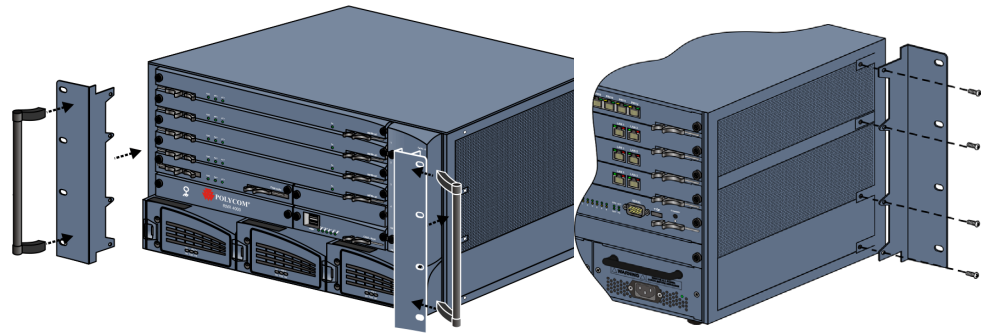

Figure 1-10 Installing the handles and brackets & detailed rear view of 23" bracket attachment
- 2 After removal, attach the 23" brackets as provided in the *Rack Installation Accessories* kit, and re-install the handles to the 23" brackets. This is shown in Figure 1-10.